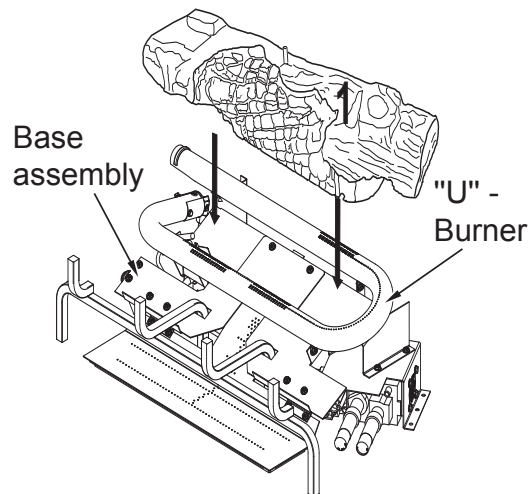

Figure 29 - Installing Log # 1
1. Place the rear log (#1) on base assembly as shown in **Figure 29**. Log will fit over right end of burner and rest in middle of U-burner.